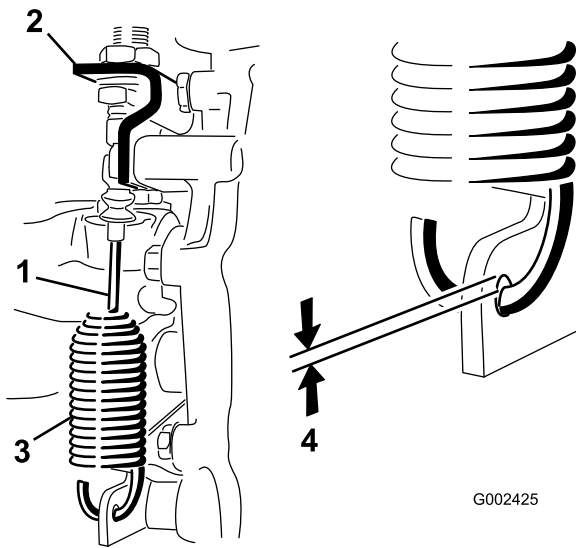

Figure 44
2. Loosen the jam nuts securing the differential-lock cable to the bracket on the transaxle (Figure 44).